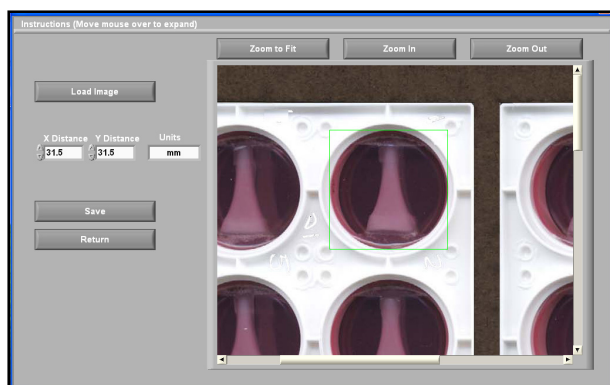

Figure 18. Screen to create a calibration file.
- c. To use area measurement units of μm^2 , mm^2 , or cm^2 , choose *CREATE CALIBRATION FILE*, which will take the user to the Calibration screen (Fig. 18).